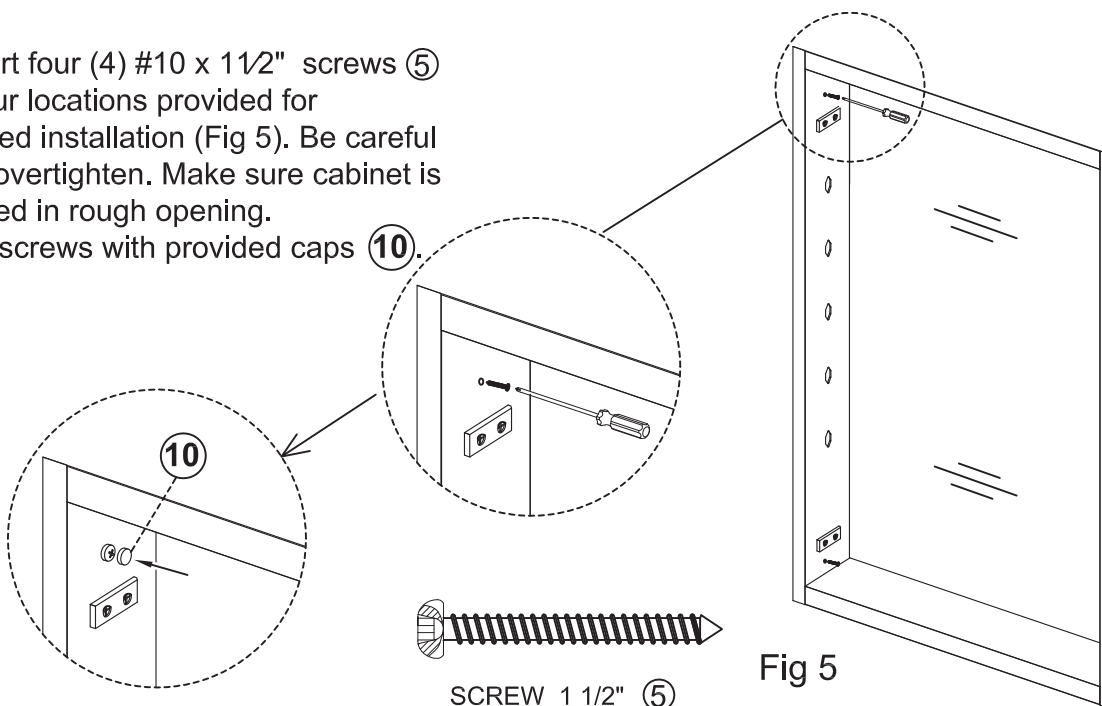

Fig 5
3. Insert four (4) #10 x 1 1/2" screws ⑤ into four locations provided for recessed installation (Fig 5). Be careful not to overtighten. Make sure cabinet is centered in rough opening. Cover screws with provided caps ⑩.